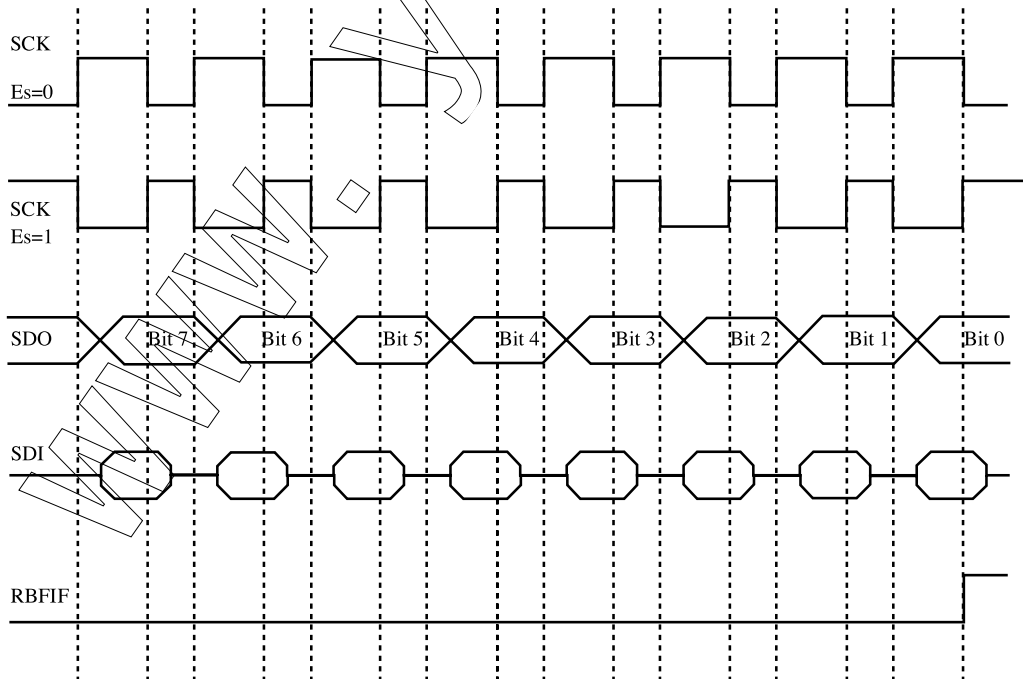
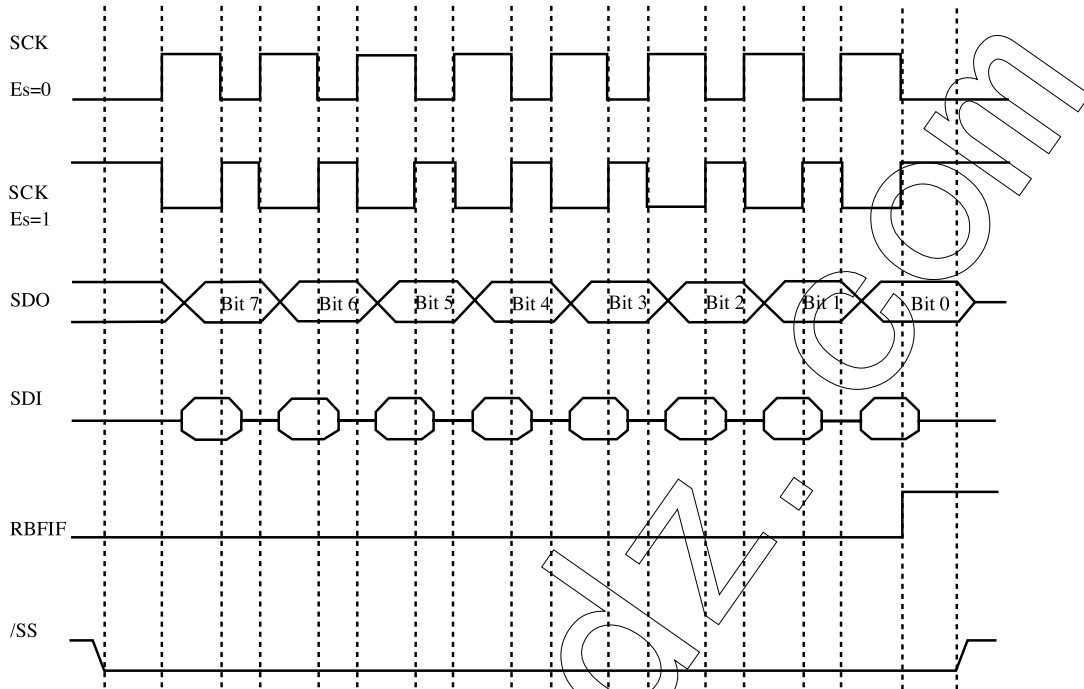

Fig. 12 SPI Mode with /SS disabled
Fig. 13 SPI Mode with /SS-enabled
The four pins, SDI, SDO, SCK, and /SS, which are shown in Fig. 12, will be explained in detail as follows:
- Timing is shown in Fig. 12 and Fig. 13 .
The edge of SCK is selected by programming bit, CES. The waveform shown in Fig. 12 can be used no matter EM78P451 is either in a master mode or in a slave mode with /SS disabled. However, the waveform in Fig. 13 can only be implemented in a slave mode with /SS enabled.